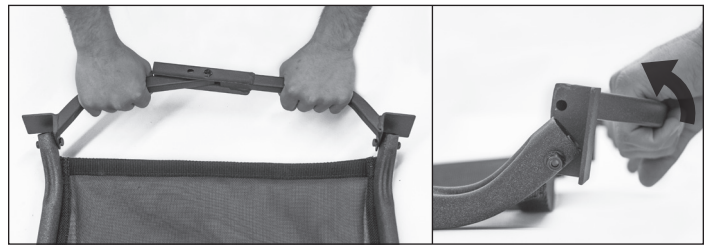

FIGURE 12A - Front hinged brace in vertical position
g. Rotate the front hinged brace (25) towards the mesh seat to lock the brace in position. **SEE FIGURES 12A and 12B.**